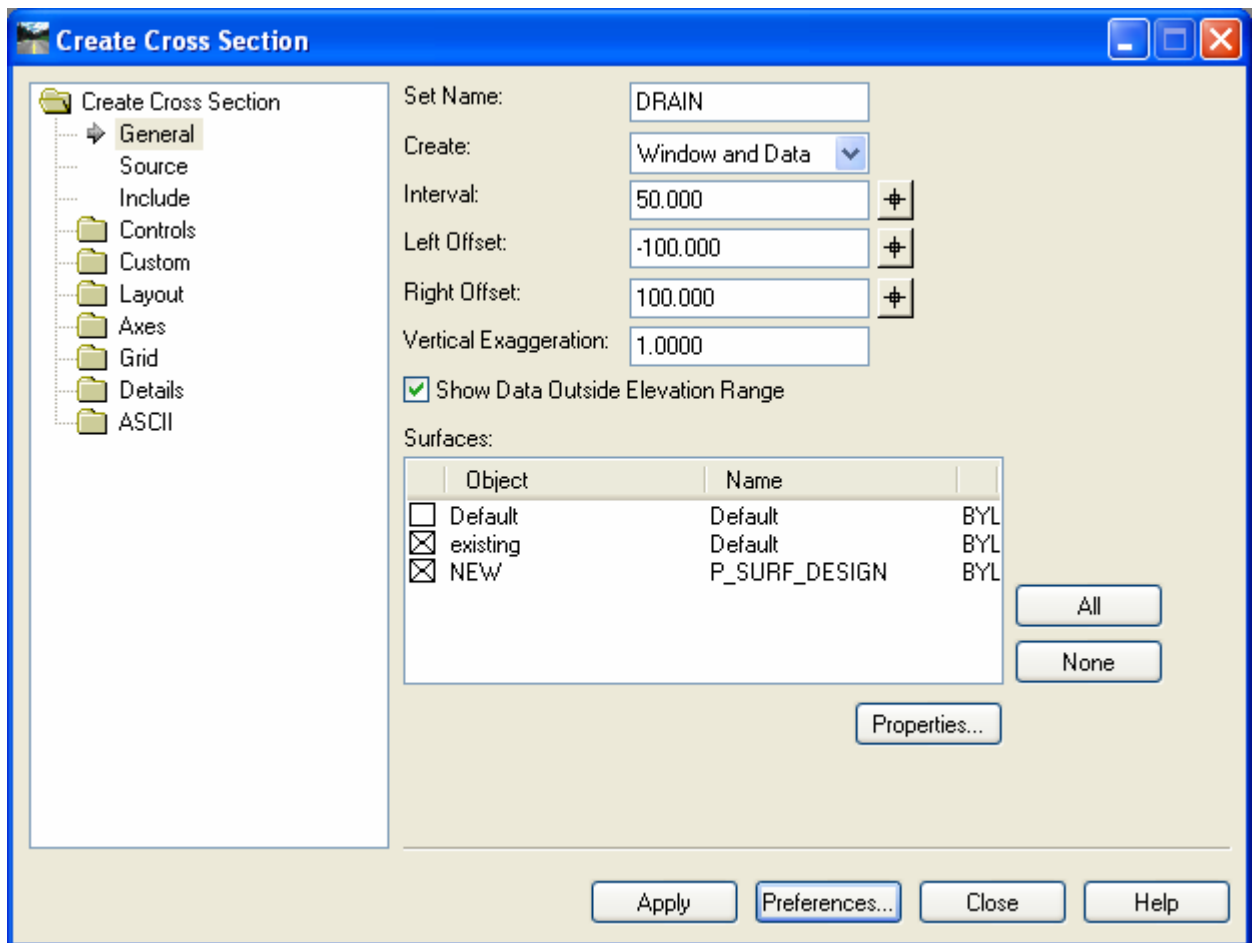

Figure 9-1 InRoads Create Cross Section Dialog Box
- A. Select **Evaluation>cross sections>create cross section**. Figure 9-1 shows the Create Cross Section dialog box.